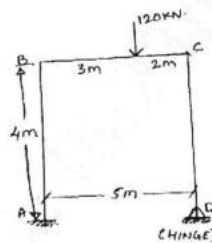

Fig. Q8
- 8 Analyze the portal frame shown in Fig. Q8 by flexibility matrix method. Draw BMD. (16 Marks)